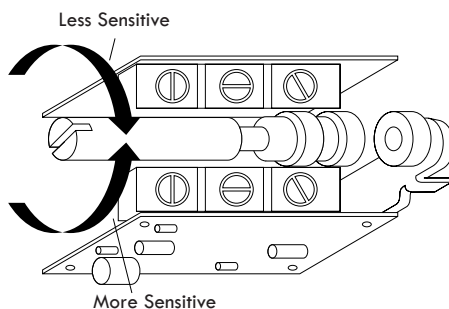

Figure A-108: Sensitivity adjustment
- Start the fan motor. If the vibration switch trips on start-up, allow the fan motor to stop. Turn the sensitivity adjustment 1/4 turn clockwise (see Figure A-108): Depress the reset button and restart the fan motor. Repeat this process until the vibration switch does not trip on start-up.